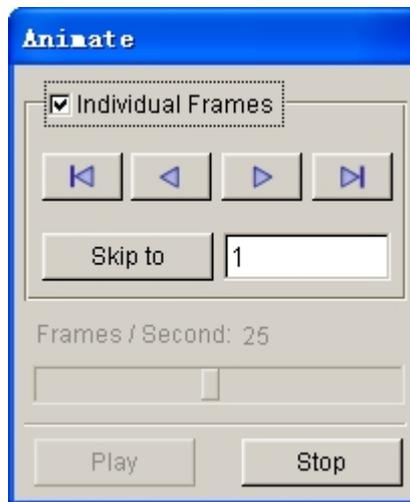

Figure 5.76 Animate control dialog box
3. You can select the **INDIVIDUAL FRAMES** option from the ANIMATE dialog box illustrated in Figure 5.76 to display incremental tool movement.